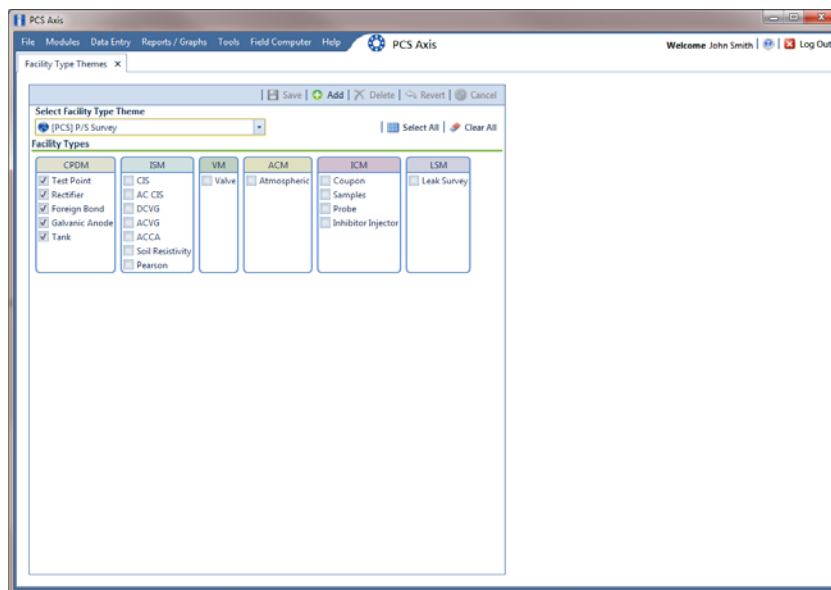

Figure 14-1. Facility Type Themes
- 1 Click **Tools > Facility Type Themes** to open the *Facility Type Themes* window (Figure 14-1).
- Click the check box for each facility type you want to add, then click  **Save**. A check mark inside a check box indicates a selection (Figure 14-1).